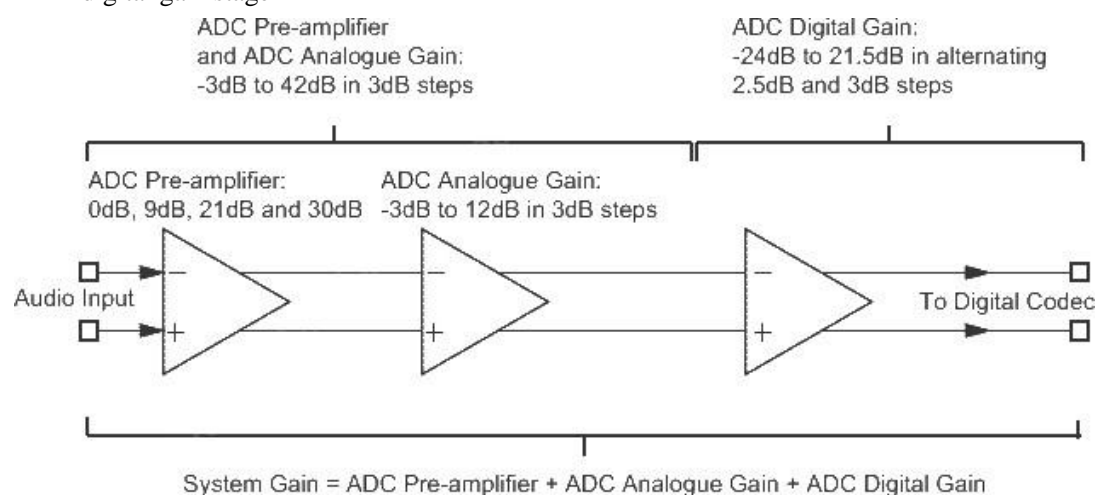

Figure 9.3: Audio Input Gain
Figure 9.3 shows that the CSR8670 BGA audio input gain consists of:
- The overall analogue gain for the pre-amplifier and analogue amplifier is -3dB to 42dB in 3dB steps, see Figure 9.3